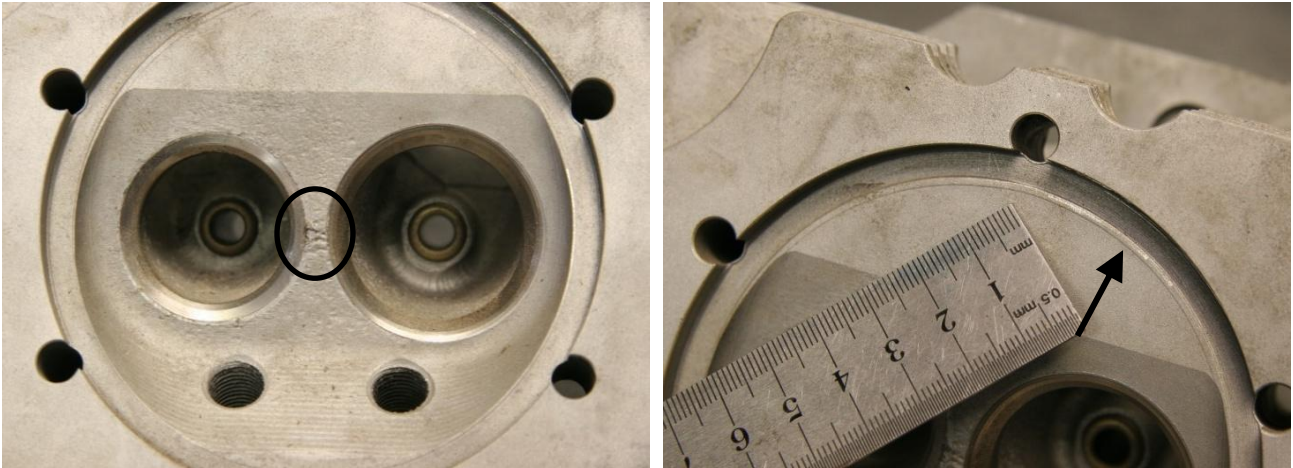

Figure 85 – Cracking Between Valves, Recessed Cylinder Spigot
- Figure 85 (right) is a cylinder head in which the cylinder has crushed into the cylinder head. This can be caused by over-tensioning or operating the engine with too-high CHT's. This is not acceptable for re-use as it alters the engines compression ratio.